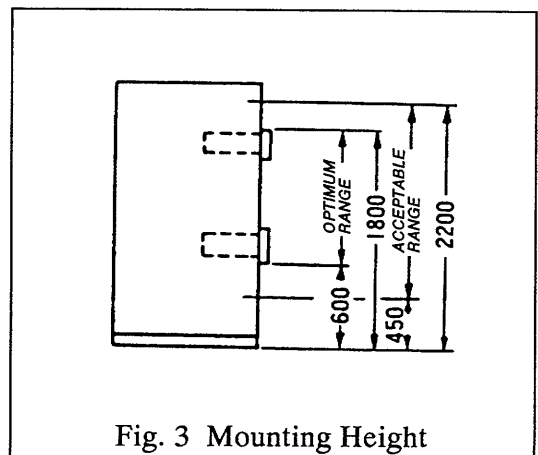

Fig. 3 Mounting Height
3. Recommended mounting height is given in Fig. 3.